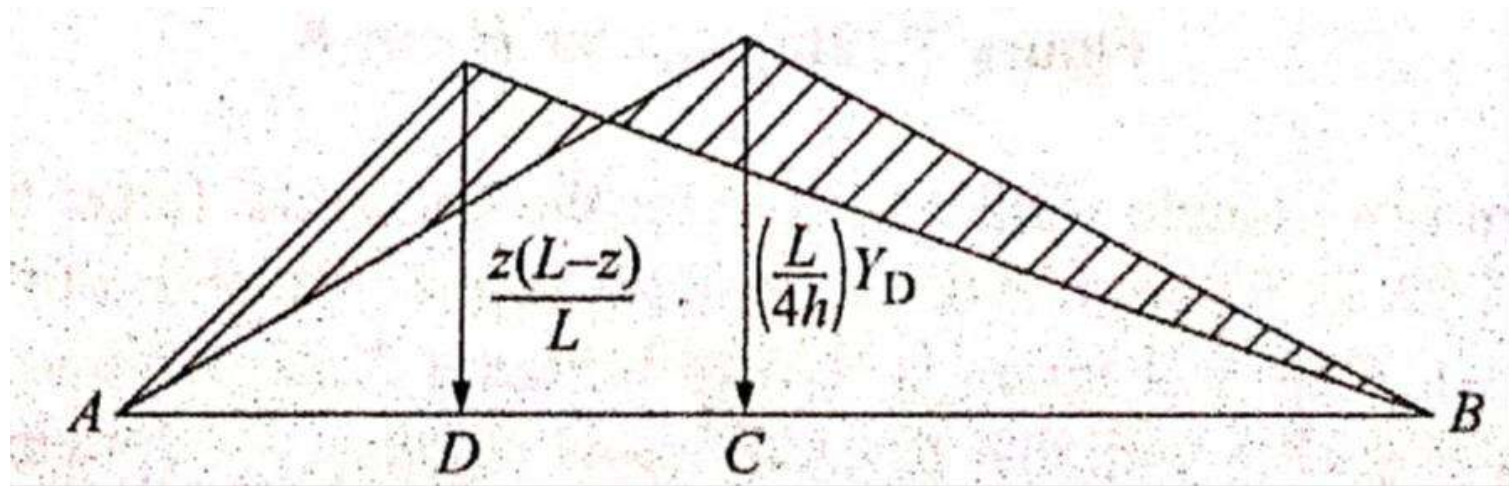

Figure 5: ILD for M_D
- We know that ILD for beam moment at D is a triangle with maximum ordinate $\frac{z(L-z)}{L}$ at D as shown in Figure 5.
- Hy_D diagram is a triangle with $\left(\frac{L}{4h} \times yD\right)$ as the maximum ordinate at C as shown in Figure 5.
- The Hy_D diagram is to be subtracted from the beam moment diagram. Hence, both the triangle is drawn on the same side. The difference diagram is marked as the ILD for the bending moment at D as shown in Figure 5.